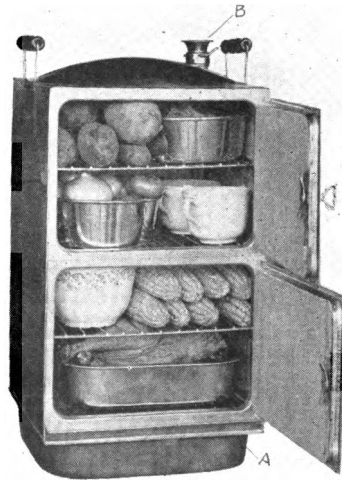

FIG. 25. Steam cooker.
**55. Steam Cookers.** There are several steam cookers in use in homes. The simplest of these is a covered pan which has a perforated bottom, which is set over another pan (A, Fig. 25), in which water is placed for forming steam. One of the difficulties of this cooker is that the water in the lower pan cannot be watched and may boil dry. On the more improved cookers a whistling device (B, Fig. 25) is attached to the pan, and when the water becomes low and steam ceases to flow thru it, air begins to come in, and the device makes a whistling noise.